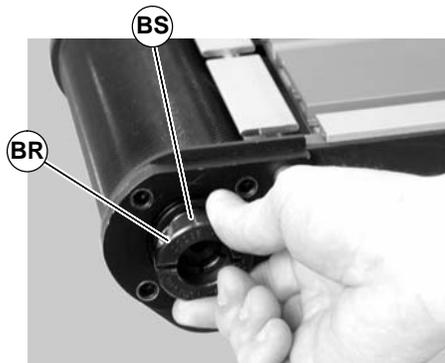
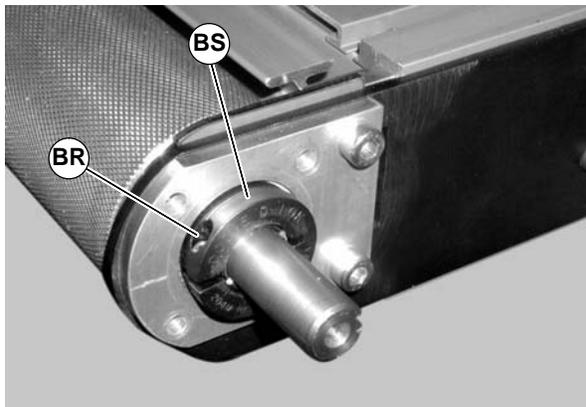

Figure 49
Figure 50
5. Loosen the bearing collar set screw (BR of Figure 49) and remove bearing collar (BS). Repeat on drive shaft side of pulley (BR and BS of Figure 50)..mm